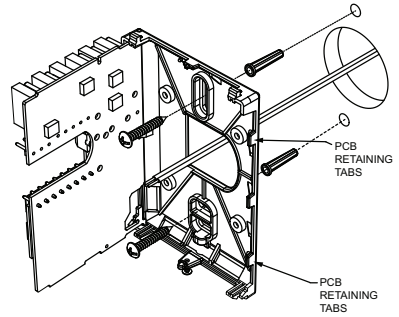

Fig. 3. Location of PCB retaining tabs and mounting screws
3. Open the thermostat PCB to the left by pressing the PCB retaining tabs. (Fig. 3).
8. Insert screws through the mounting holes on each side of the base and mount base on wall. (Fig. 3).